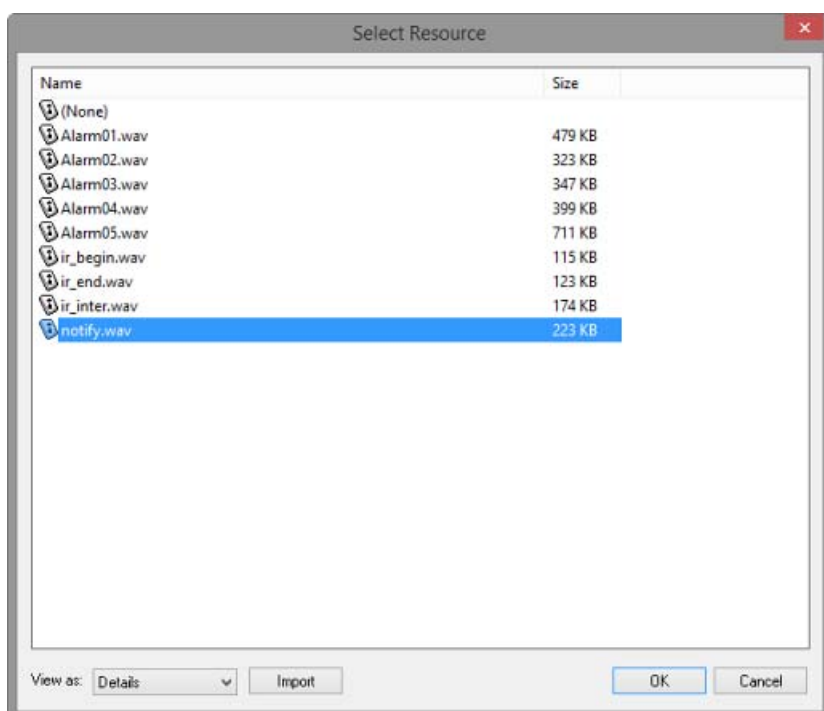

FIG. 39 Select Resource dialog (Sounds)
2. In the States tab of the Properties window, click on the *Sound* field. Click the browse (...) button to open the *Select Resource* dialog (FIG. 39):